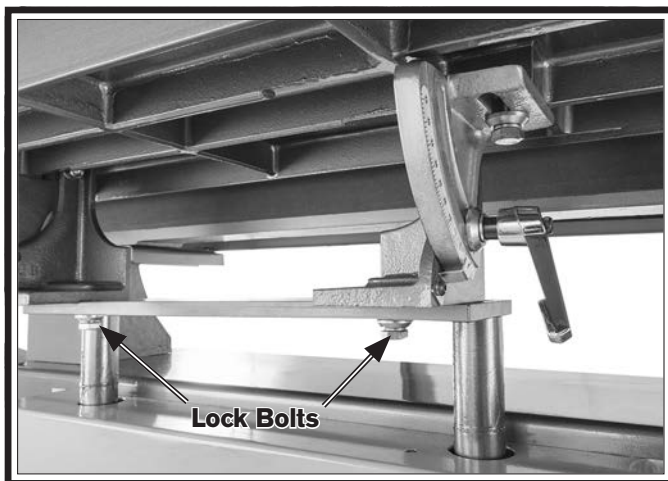

Figure 39. Location of lock bolts.
5. Loosen lock bolts shown in **Figure 39**, push table so there is $\frac{1}{16}$ " or less between table and sandpaper, then tighten bolts.